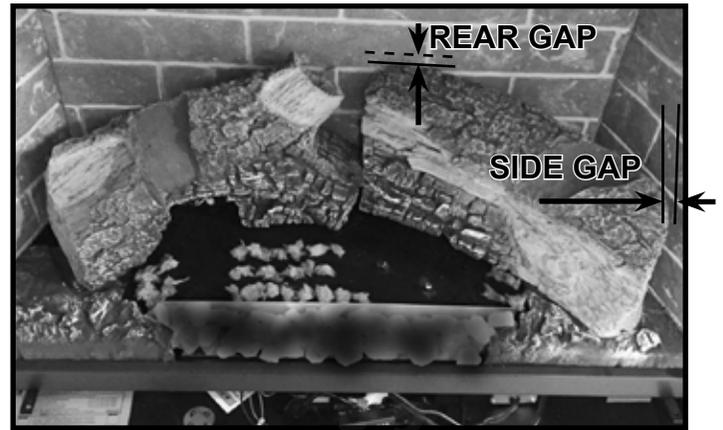

Figure 5. Rear Right Log Installed
2. Remove the large rear right log from packaging and install it by locating it on the back right log pin. On some models, it may be necessary to lift the rear left log slightly to install the rear right log. The right side of the log will reside within the indentation in the right hearth component. See Figure 5.
**SL-7X and SL-9X Models:** The rear right log will be positioned to contact the back wall refractory (no rear gap). There will be about a 3/4 inch side gap between the right end of the log and the right refractory panel. See Figure 5.
**SL-3X Models:** The rear right log will be positioned to maintain about a 1 inch rear gap between the rear right log and the back wall refractory. The rear right log will contact the right refractory panel (no side gap). See Figure 5.
**SL-5X Models:** The rear right log will be positioned to maintain about a 1/4 inch rear gap between the rear right log and the back wall refractory. The rear right log will contact the right refractory panel (no side gap). See Figure 5.